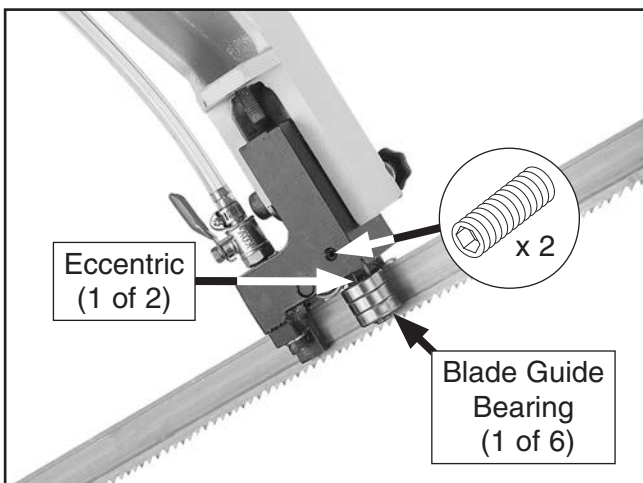

Figure 86. Location of blade guide bearing adjustment components.
1. On upper blade guide, loosen (2) set screws shown in **Figure 86** to allow guide bearings on upper blade guide to turn.
2. Turn each eccentric shaft until guide bearings (see **Figure 86**) lightly contact blade or have maximum clearance of 0.002".